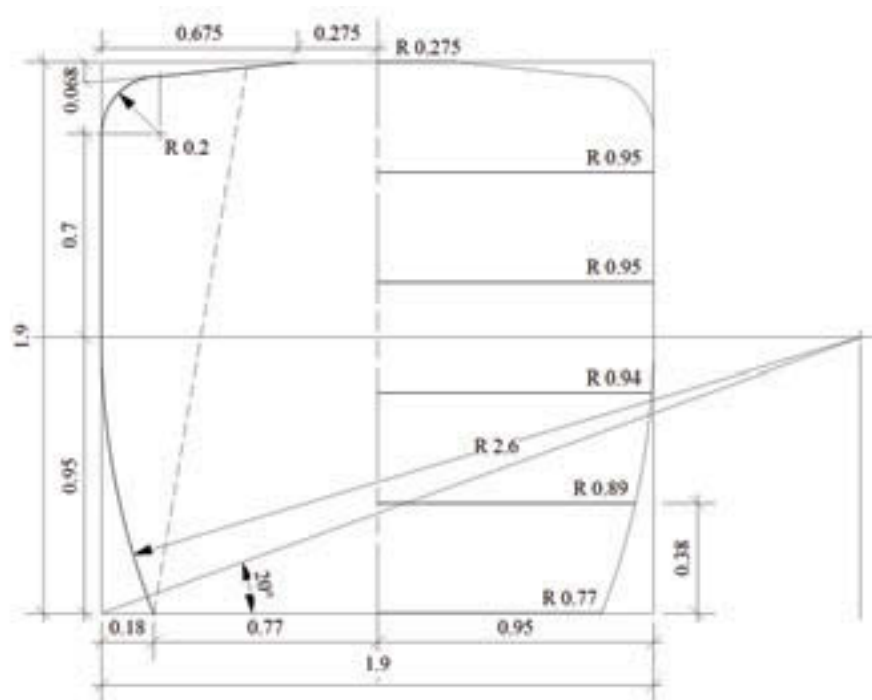

Fig. 46: Shape of a 5,000 liter tank
Figure 46 illustrates the shape used for the 5,000 L ferrocement tank. The design was created using the steps in Appendix B - Determining Tank Shape, through which the curvature of the upper and lower portions of the tank was determined. The design is also one of the samples included in Appendix C. From the sample design, vertical pieces were measured to be 2.47 m long and 7 horizontal hoops ranging in diameter from 0.55 m to 1.90 m were needed (see Appendix D).
4. Based on figure 46, each vertical piece is 2.47 m long. Cut 40 pieces of steel bar of this length, and bend into the proper shape.
1. From figure 46, we know that we need to form six hoops of the following sizes: